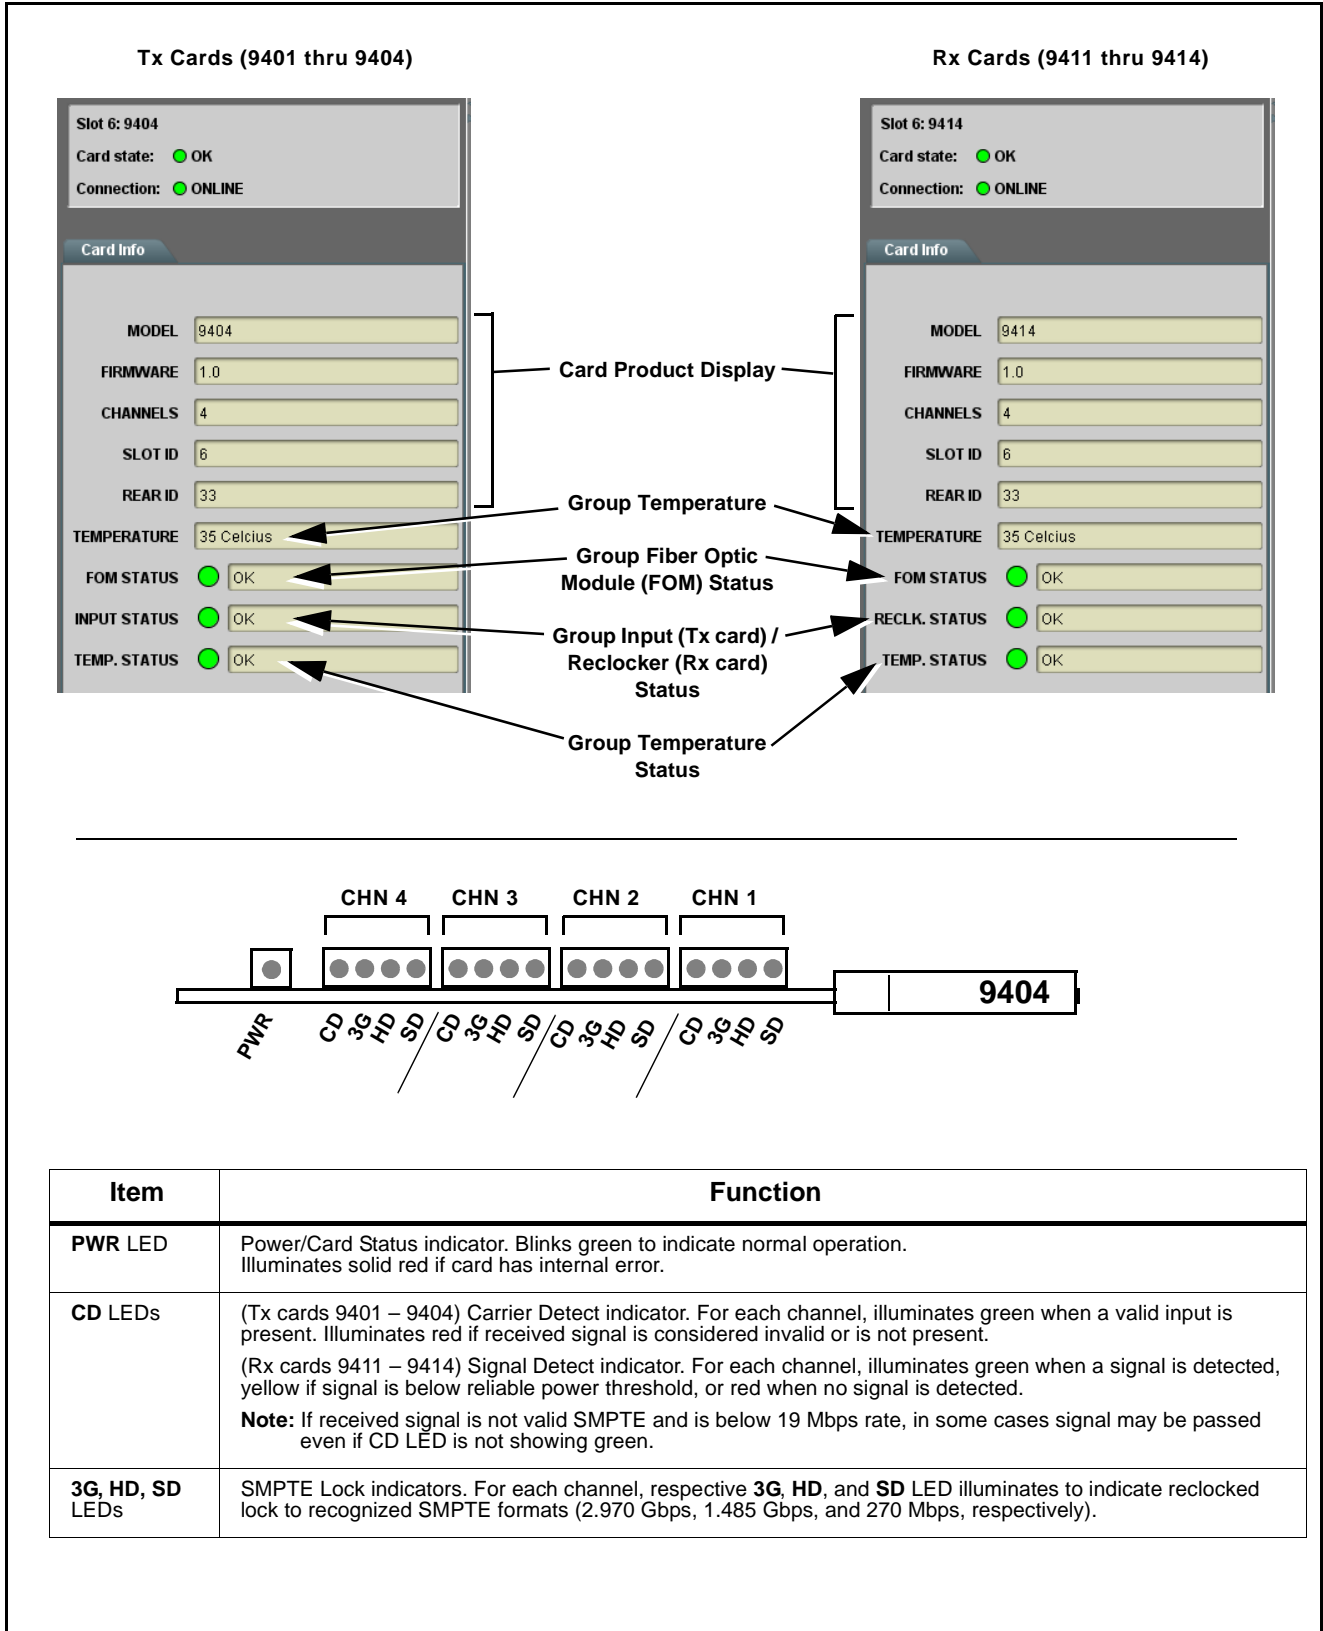

Figure 3-1 Typical Card Status Displays
The operating status and software version the 9400-series card can be checked using DashBoard™. Figure 3-1 shows and describes checking overall status using the card information screen on DashBoard™ and the card edge control user interface.
- Note:** Proper operating status in DashBoard™ is denoted by green icons for the status indicators shown in Figure 3-1. Yellow or red icons respectively indicate an alert or failure condition. Refer to Troubleshooting (p. 3-11) for corrective action.
- Note:** Figure 3-1 shows 9404 Tx and 9414 Rx card typical card edge display. Other card models with less fiber channels may not be populated in the CHN 2 thru CHN 4 positions shown.